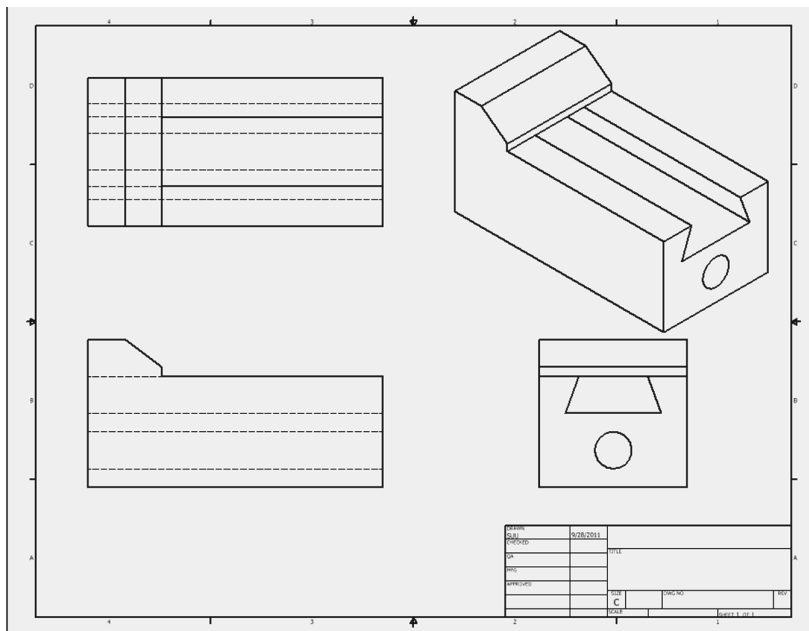

Figure 23
28. Your screen should look similar to Figure 23.